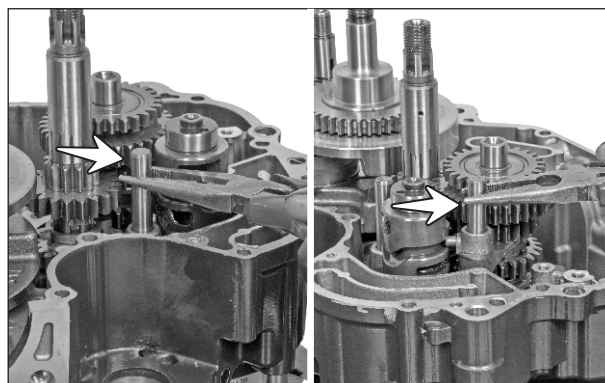

Fig. 3.147
- Pull out both the shaft shift forks from the fork gear shifts. (Fig. 3.147)